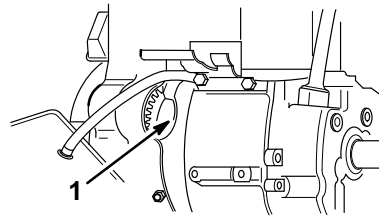

Figure 3
2. The clearance notch shown in Figure 3 must be completely open. If it is not, grip the removable portion with a pliers and twist it back and forth until it separates from the engine. Discard this piece.